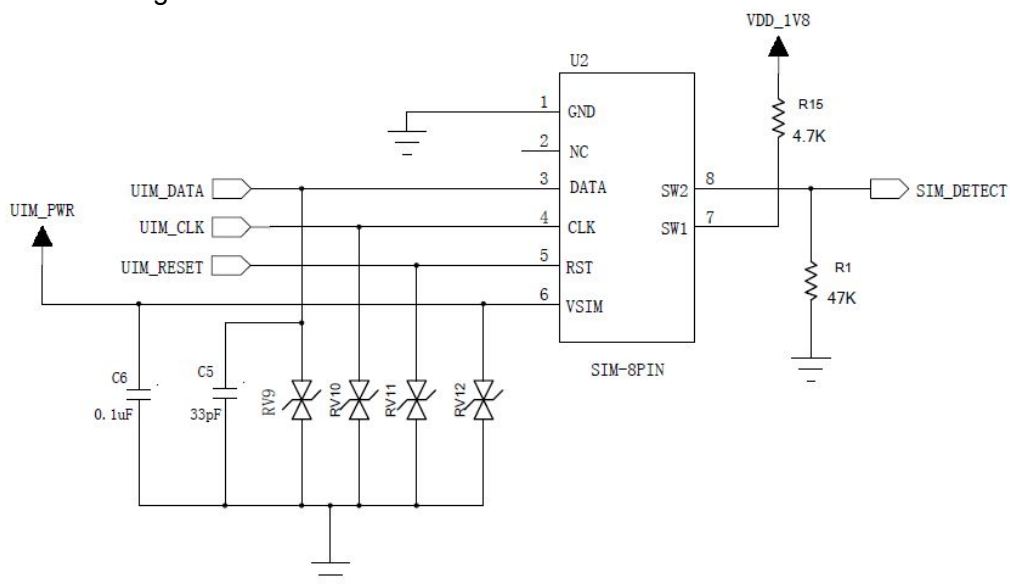

Figure 5-8 Reference Design of “Normally Open” SIM Card Interface
- For “Normal opened” SIM card, as shown in the figure5-8, SIM_DETECT signal line is connected to U2’s Pin8 (SW2), and Pin7 (SW1) will be pulled up 4.7K resistor . When the SIM card is not inserted, SW2 and SW1 will be disconnected, then SW2 will be at low level. When the SIM card is inserted, SW2 and SW1 will short circuit, SIM_DETECT level will be pulled up.